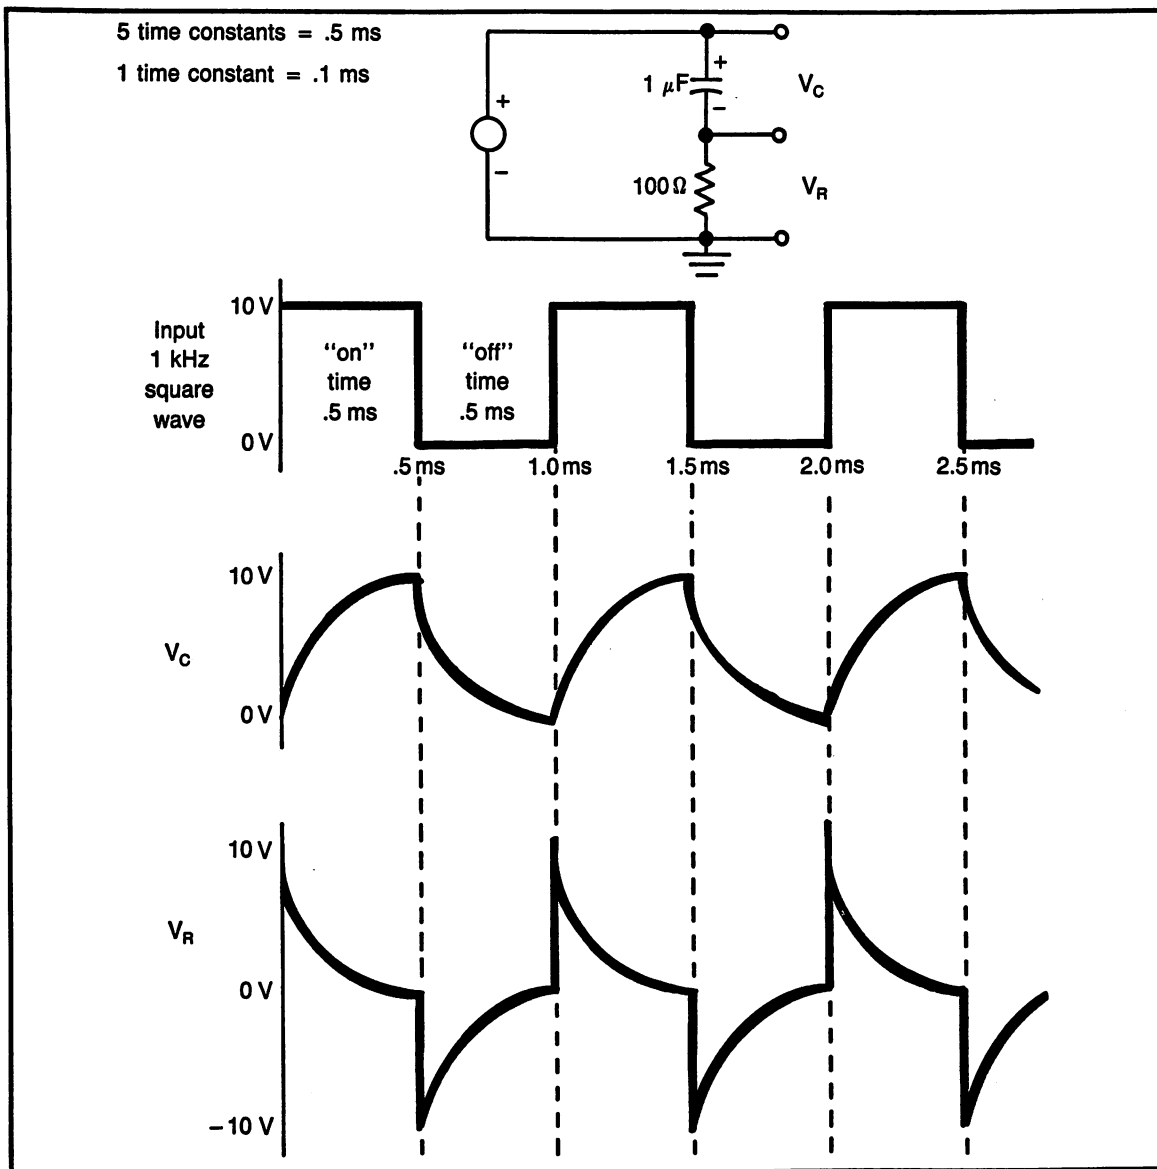

Fig. 13-27. Medium time constant.
A medium time constant circuit is defined as having a time constant that allows the capacitor to reach full charge during the "on" time, with little or no time to spare. Figure 13-27 shows a medium time constant circuit. Only the resistor value is changed from the previous circuit. The time constant in this circuit is 100 microseconds. Full charge is 500 microseconds, or .5 milliseconds, which is equal to the "on" time.
- c. Label this completed graph paper "Medium Time Constant", as shown in Fig. 13-27.